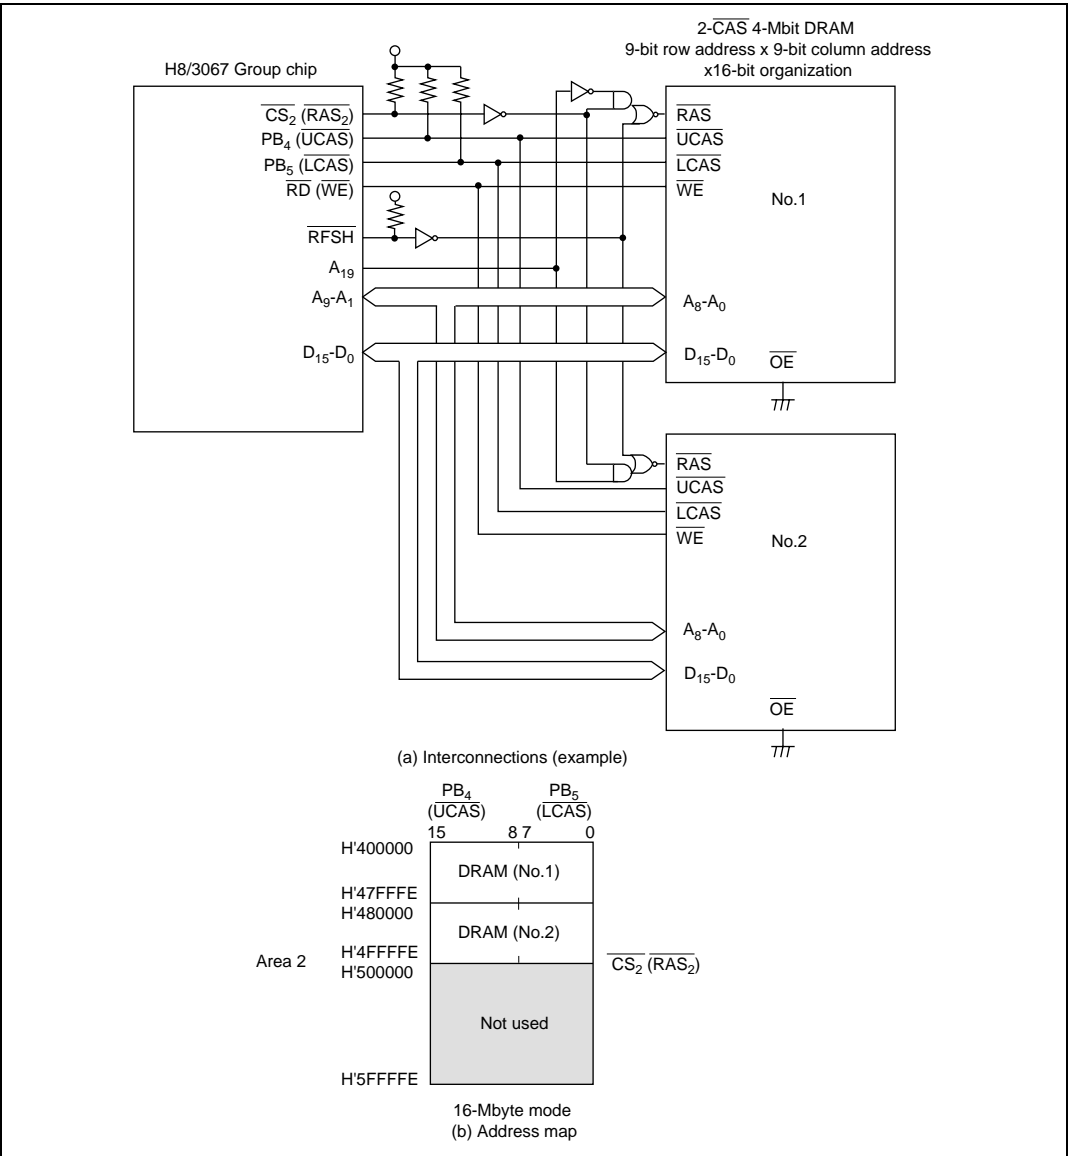

Figure 6.33 Interconnections and Address Map for 2-CAS 4-Mbit DRAMs with $\times 16$ -Bit Organization
- Figure 6.33 shows typical interconnections when using two 4-Mbit DRAMs, and the corresponding address map. The DRAMs used in this example are of the 9-bit row address \times 10-bit column address type. In this example, upper address decoding allows multiple DRAMs to be connected to a single area. The $\overline{\text{RFSH}}$ pin is used in this case, since both DRAMs must be refreshed simultaneously. However, note that RAS down mode cannot be used in this interconnection example.